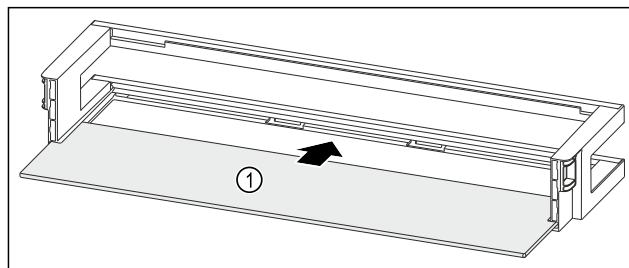

Fig. 86 Door racks with shelf
- ▶ Push the shelf Fig. 86 (1) into the side cutouts.